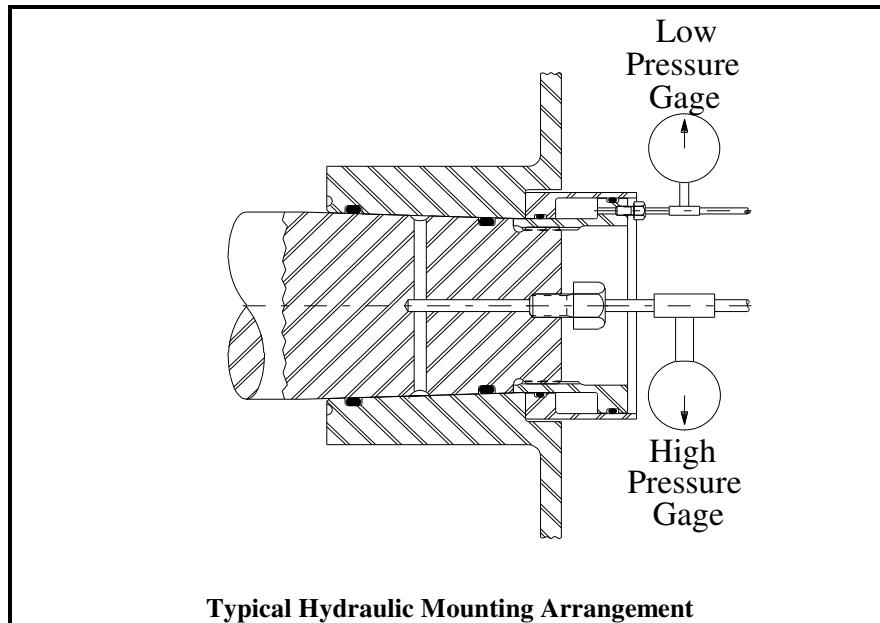

Figure 4-5
4.2.3.6 Mount the hub onto the shaft using a hydraulic mounting device until the hub bottoms against the positive stop. Refer to AGMA 9003-A91 or other industry standard for more information about hydraulic mounting (see Figure 4-5).